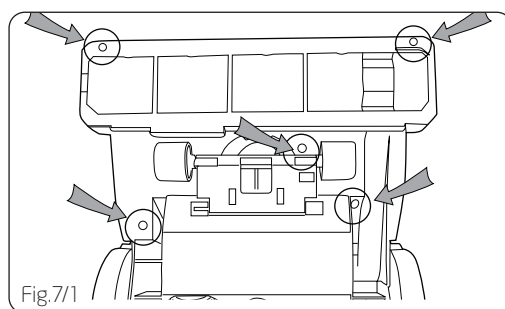

Fig.7/1
Using a crosshead screwdriver, remove the five (5) screws on the underside of the cleaner (Fig.7/1).
Pull down the smaller wheel flap on the underside and remove the remaining screw inside the black tube (Fig.7/2).